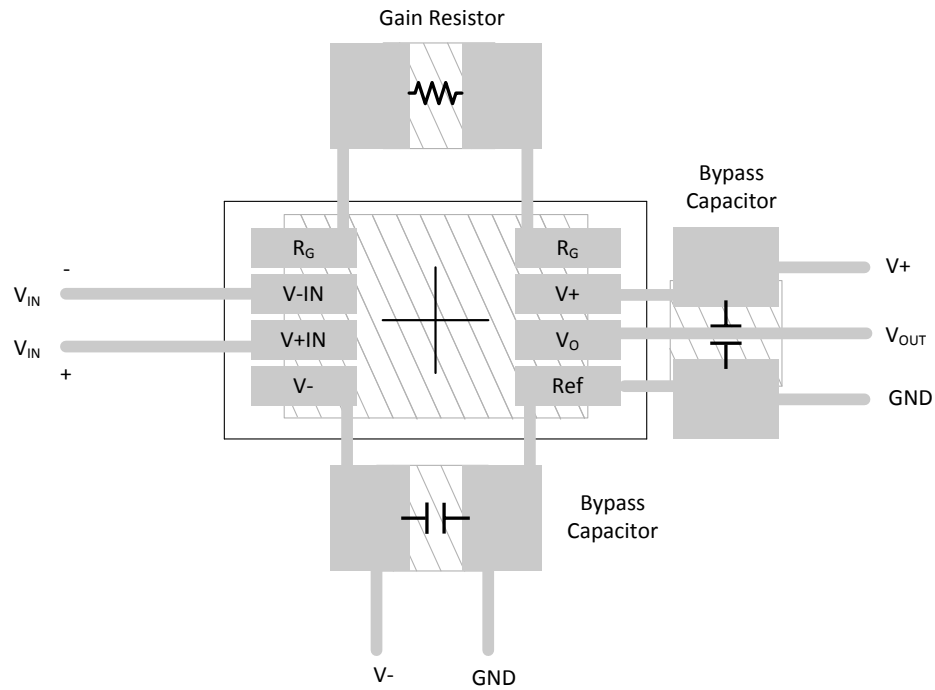

图 10-1. INA126 Layout Example
- Place the external components as close to the device as possible. As illustrated in 图 10-1, keep  $R_G$  close to the pins to minimize parasitic capacitance.